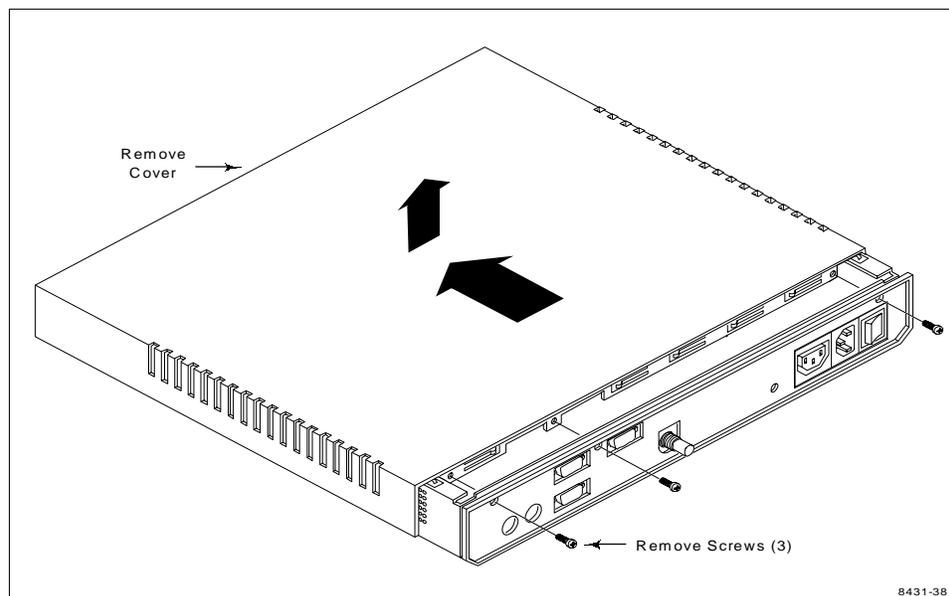

Figure 11. Removing the Pizza Box “A” Logic Module Cover
1. Remove the logic module cover as shown in Figure 11. Remove the three cover screws on the rear of the logic module; lift the cover slightly at the rear and slide it in the direction of the large arrow, then lift up.